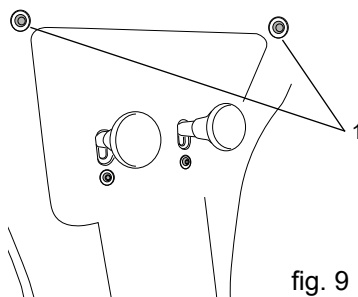

fig. 9
Lower the left and/or right side brush by pulling the appropriate levers up or down (fig. 9).
**NOTE:** a resettable fuse is fitted above each side brush lever. If a side brush stops working, press the button to reset the fuse (fig. 9, rif. 1).